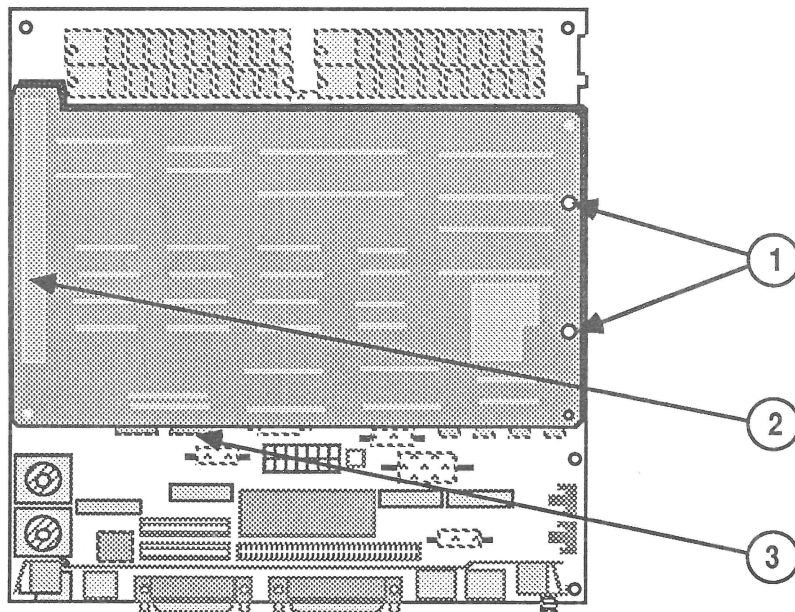
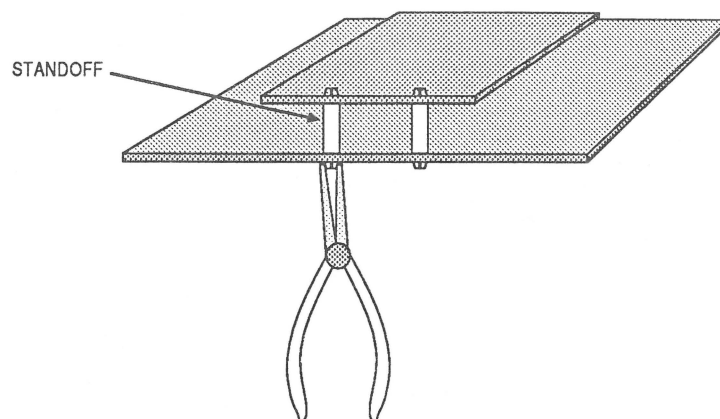

FIGURE 9
FIGURE 10
5. Unplug the SE-Bus PC Card cable from the 26-pin connector on the SE-Bus PC Card (Figure 9, #3).
6. Working from the bottom side of the logic board, squeeze the plastic standoff ends (Figure 9, #1) with a pair of pliers, and push the standoffs out of the holes (Figure 10).
7. Unplug and remove the card from the 96-pin Euro-DIN connector on the main logic board (Figure 9, #2).
8. Use a pair of pliers to remove the plastic standoffs from the card (Figure 10).
- IPL.17 Dual Internal Drives (Figure 9)
- IPL.19 Internal HDA (Figure 10)